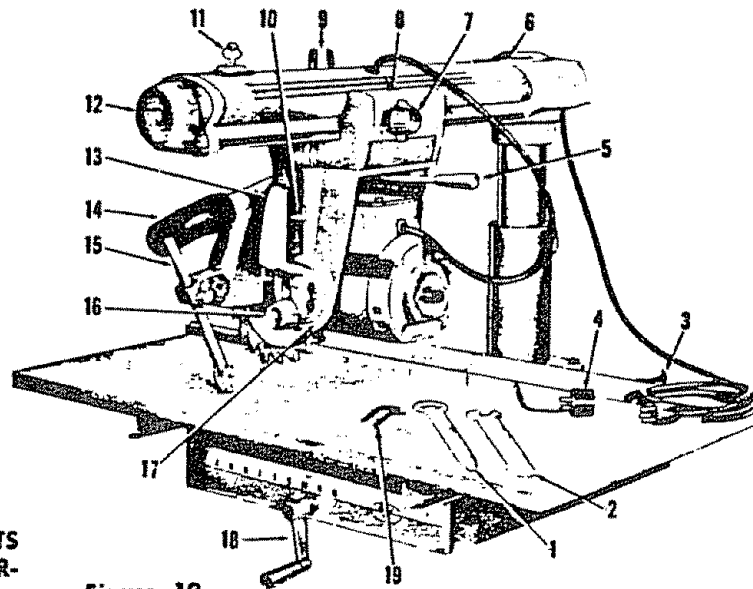
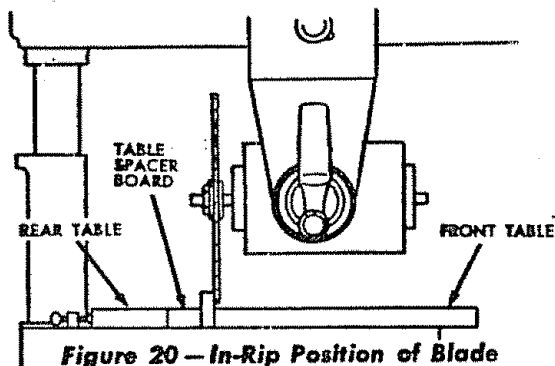

Figure 19
Figure 20 — In-Rip Position of Blade
RAISING AND LOWERING THE RADIAL ARM is accomplished by the elevation crank (Item 18, figure 19). One complete turn of this handle will raise or lower the radial arm $\frac{1}{8}$ ".
LOCKING THE CARRIAGE TO THE RADIAL ARM is accomplished by the carriage lock knob (Item 7, figure 19). Turn the knob clockwise to lock; counterclockwise to unlock.
ANGULAR MOVEMENT AND LOCKING OF THE RADIAL ARM are controlled by the arm latch handle (Item 12, figure 19). The radial arm can be rotated 360° and locked in any position. The arm is unlocked from any position by a slight counterclockwise rotation of the arm latch handle and is locked in any position by rotating the arm latch handle clockwise until tight. The radial arm has positive stops at 0° and 45° left and right, and is released from these index positions by unlocking and pulling out the arm latch handle (Item 12, figure 19). Due to positive arm locking at the index positions, the arm latch handle may be difficult to pull out. A few turns to the left will release it.
2. Before moving the radial arm to the desired index position, turn the arm latch handle (Item 12, figure 19) just $\frac{1}{4}$ turn counterclockwise from the locked position.
MOVEMENT AND POSITION OF THE MOTOR IN THE YOKE are controlled by the latch pin handle (Item 10, figure 19) and bevel lock knob (Item 16, figure 19). The bevel scale indicates the angular position of the motor with respect to the horizontal from 0° to 90° in either vertical position. The latch pin handle automatically indexes the motor at 0°, 45°, and 90° up and down. Lift to release. At any other position the latch pin handle is not engaged. The bevel lock knob locks the motor to the yoke when the motor is in any position. Locking is clockwise; unlocking is counterclockwise.
MOVEMENT AND POSITION OF THE YOKE are controlled by the swivel latch pin knob (Item 9, figure 19) and the yoke clamp handle (Item 5, figure 19). The swivel latch pin automatically indexes the yoke at each 90° position and two 45° positions. Lift to release. The yoke clamp handle locks the yoke to the carriage in any position. Pull to release. Push to tighten. When "In Ripping" it may be desirable to have more free table in front of the saw blade than is obtainable when the radial arm is at the 0° position. With the blade in the normal cross-cut position index the radial arm to 45° left and lock it. Then loosen the yoke clamp handle and index the yoke 45° clockwise. Reclamp the yoke clamp handle. The added free table space is now to the right of the blade and ripping should be done from the right side of the table. The reverse is also true for "Out Ripping" by indexing the radial arm 45° right and indexing the yoke 45° counterclockwise. The added table space is now to the left of the blade and ripping should be done from the left side of the table.
Move the motor along the radial arm until the blade, when spun by hand, just touches the front face of the fence (See Figure 20). The indicator (Item 8, figure 19) on the "In-Rip" scale should now read 0. If not, shift the position of the indicator to read 0.